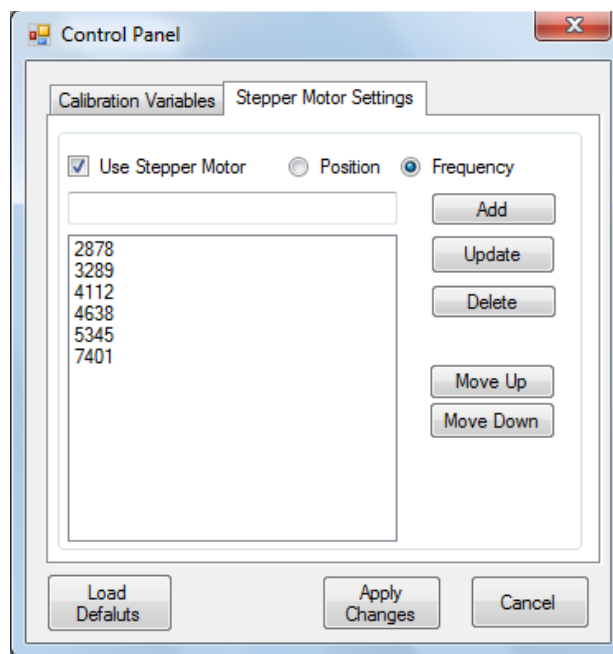

Figure 2. Stepper Motor Settings menu.
2. **Stepper Motor Settings** are as follows (see Figure 2):